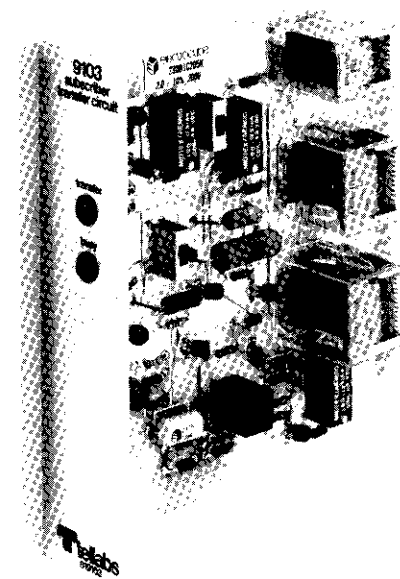

figure 1. 9103 Subscriber Transfer Circuit module
1.01 The 9103 Subscriber Transfer Circuit module (figure 1) allows calls to a 2wire business telephone to be transferred to a 2wire residence telephone when the business telephone is unattended. The business subscriber selects either this transfer function or normal business telephone service via a transfer key installed at the business location.